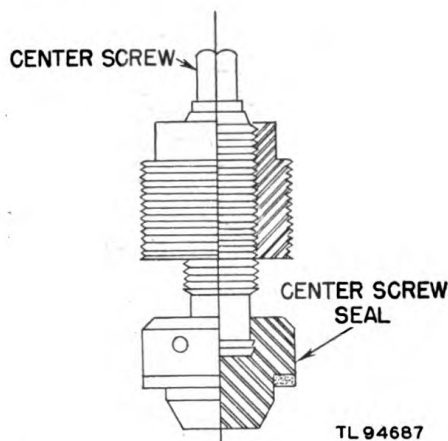

Figure 3. Large plug assembly, cross-section.
6. Outlet Valve Assembly (figs. 3, 4, 5)